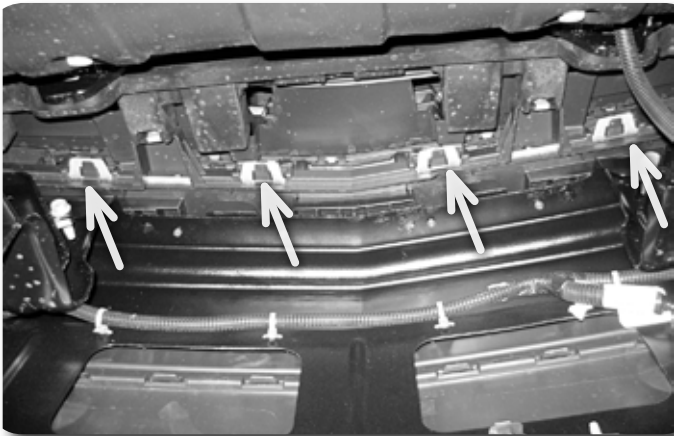

Figure 3 - 4 of 6 clips shown
- Remove the six clips holding the grill valence to the grill from the inside. Figure 3